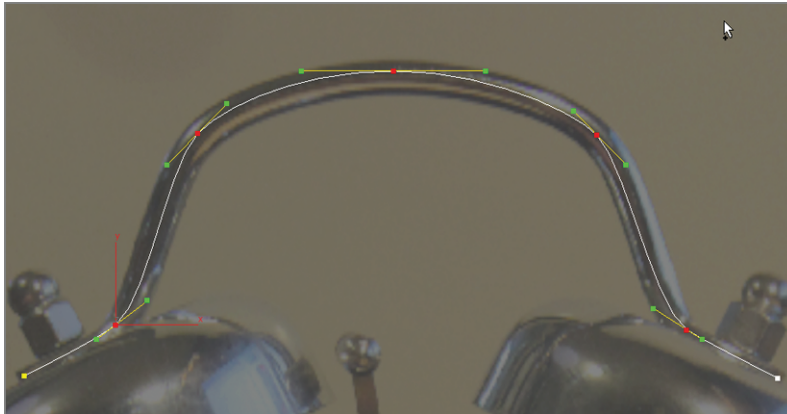

FIGURE 2.23 The line for the handle with all but the first and last vertices adjusted
9. Choose the Select And Move tool (W) and then grab one of the green boxes on either side of the vertex at the end of the tangent handle and move it until the curve matches with the handle in the image plane.
11. Adjust the tangent handles to smooth out the remaining vertices on the spline except the first and last, as shown in Figure 2.23.